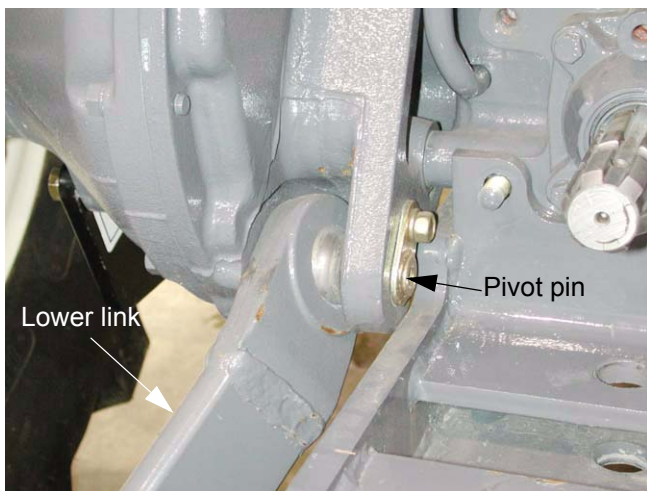

Figure 1.16
- 1.16. Remove the bolt that secures each lower link pivot pin using a 14 mm wrench. See Figure 1.16.